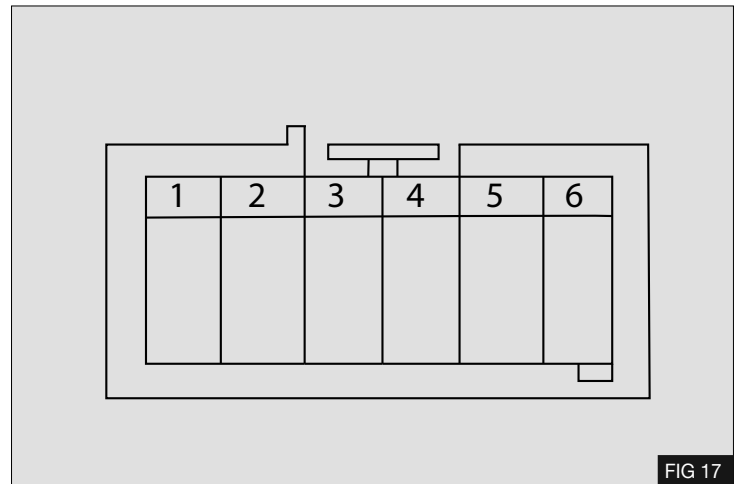

FIG 17
3. The fast idle is activated by connecting pin 1 of the 6 way connector to earth – Fig 17